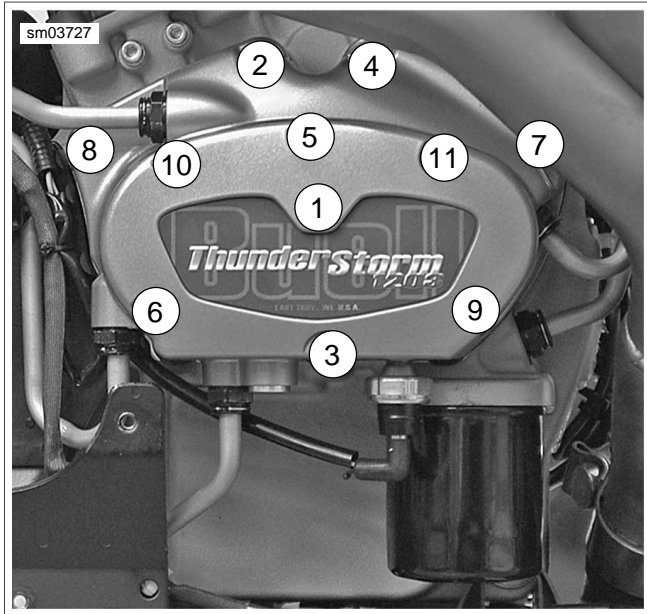

Figure 3-94. Oil Pump Body and Cover Mounting Screw Torque Sequence
6. See Figure 3-94. Install fasteners and tighten oil pump body and cover fasteners to 100-120 **in-lbs** (11.3-13.6 Nm).